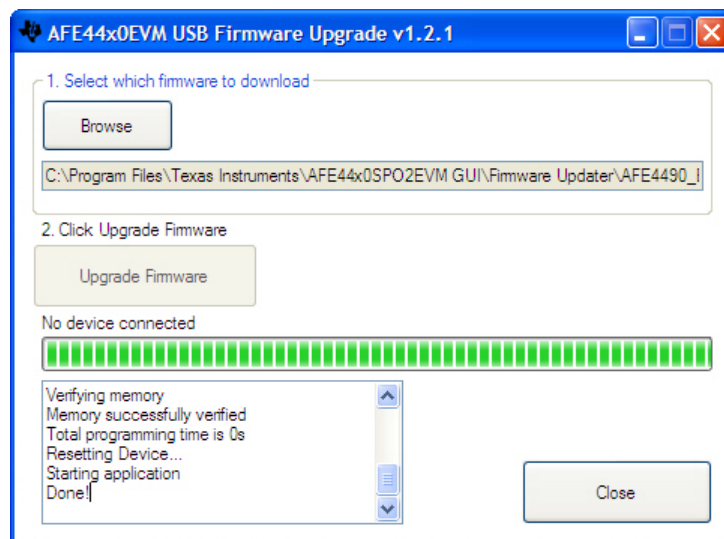

Figure 35. PC Application Firmware Upgrade – 4
- Once the device is programmed successfully, as shown in Figure 35, the device resets and reloads with the new firmware. Close the *Firmware Upgrade* application by clicking on the **Close** button and the PC GUI application automatically restarts the GUI after 4-5 seconds.